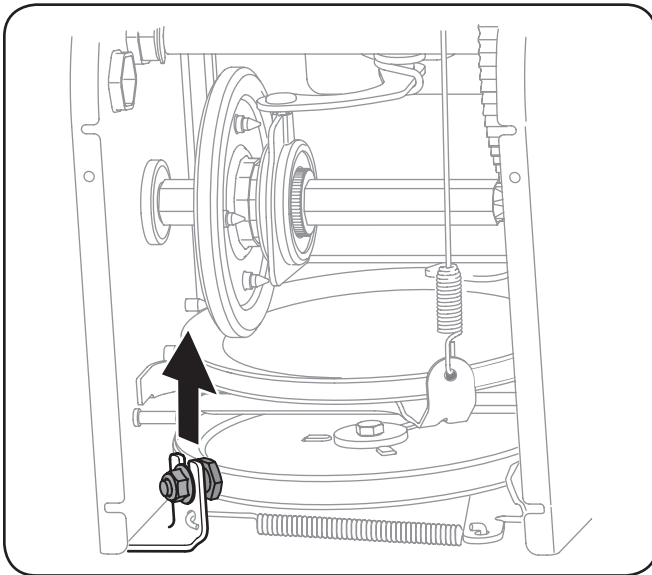

Figure 7-6
8. Loosen and remove the shoulder bolt which acts as a belt keeper. See Figure 7-6.